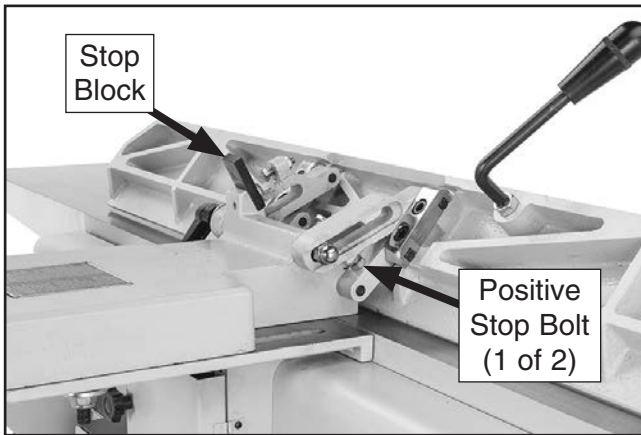

Figure 61. Fence set to 45° inward.
2. Loosen fence tilt lock, rotate stop block upward, and position fence approximately 45° inward onto positive stop bolt (see **Figure 61**).